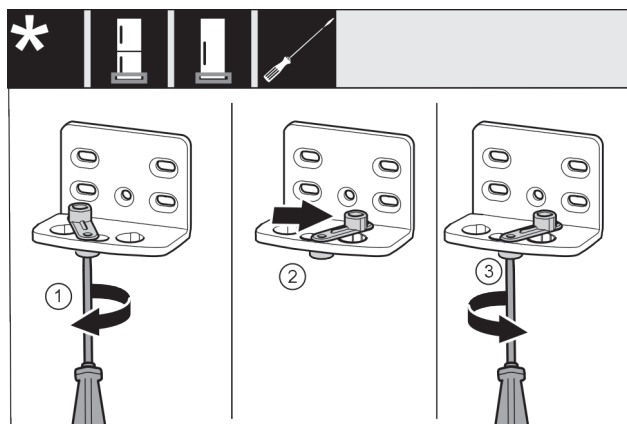

Fig. 19 *
- Use screwdriver to loosen the screw Fig. 19 (1).*
- Lift the door closing aid Fig. 19 (2) and turn 90° clockwise in the hole.*
- Tighten screw Fig. 19 (3) with screwdriver.*